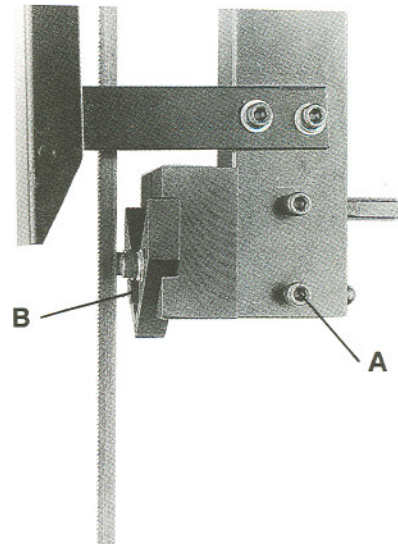

Fig. 12
3. Loosen screw (A, Fig. 12). Slide blade stop (B, Fig. 12) toward blade until a gap of 1/32" remains. Tighten screw (A, Fig. 12).
6. Loosen two hex cap screws (B, Fig. 12) and adjust each finger toward the blade. They should not touch the blade. Adjust for .010" clearance on either side.
7. Tighten two hex cap screws (B, Fig. 12) once proper adjustment has been made.